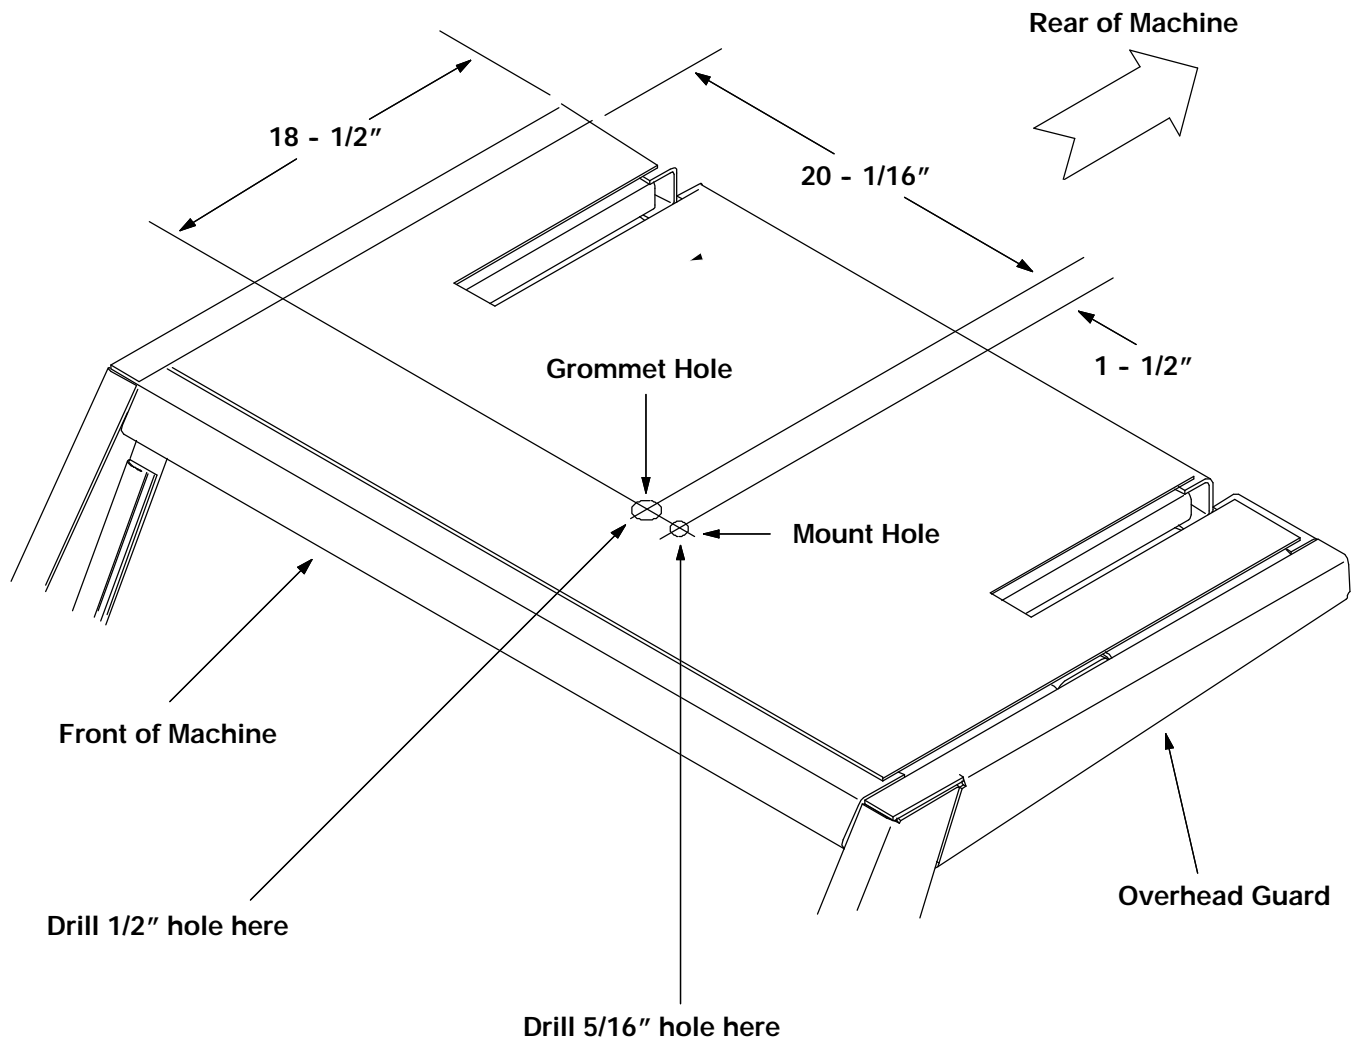

FIG. 1 - Dimensions of Holes to be Drilled for Revolving Light
(Refer to FIG. 1 and 2).
5. Drill mount holes in overhead guard according to dimensions in FIG. 1.